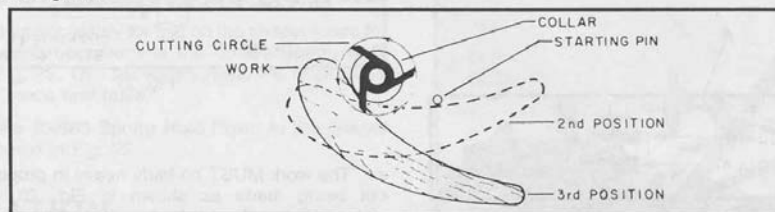

Fig. 34
3. After the cut has been started, the work is swung free of the starting pin and rides only against the collar as shown in the third position in Fig. 34. ALWAYS FEED AGAINST THE ACTION OF THE CUTTER.